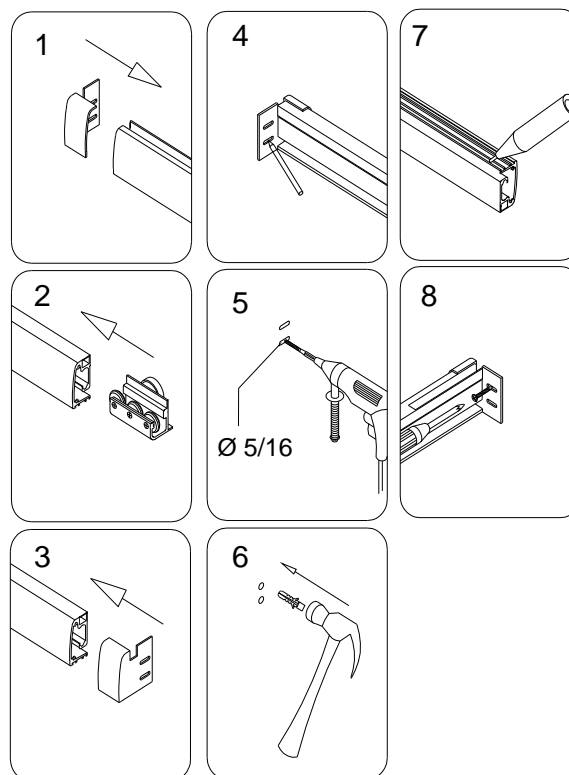

Fig. 3
3. Fasten the **Guide rail connector (11)** to one of the sides of the **Guide rail (05)**. Slide in two **Roller assemblies (13)** from the other end of the **guide rail**. Fasten another **Guide rail connector (11)** to the other side of the **Guide rail**. Place the **Guide rail** in the designated position on the base or the threshold and mark the holes through the predrilled holes on the flange of the **Guide rail connector**. Drill the holes using  $\text{Ø}5/16''$  drill bit and insert the **Wall anchor (08)**. Apply a layer of caulk or silicone to the bottom side of the guide rail. Place the **Guide rail** back on the base or the threshold and secure it with the **Round head screw ST4.2×35 (10)**. See Fig. 3 for details.